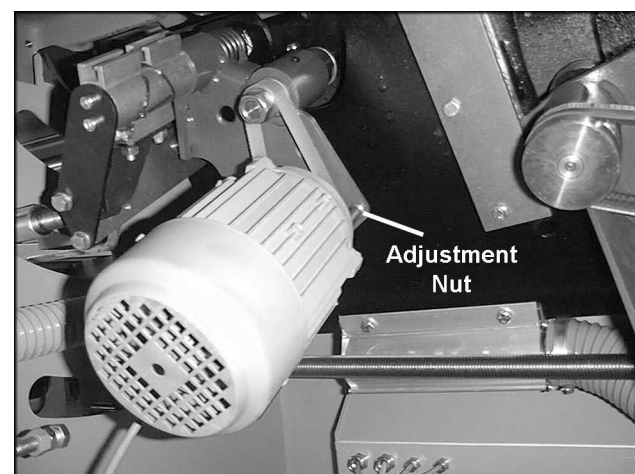

FIGURE 35
1. Loosen the two nuts (Fig. 35) which hold the scoring motor.